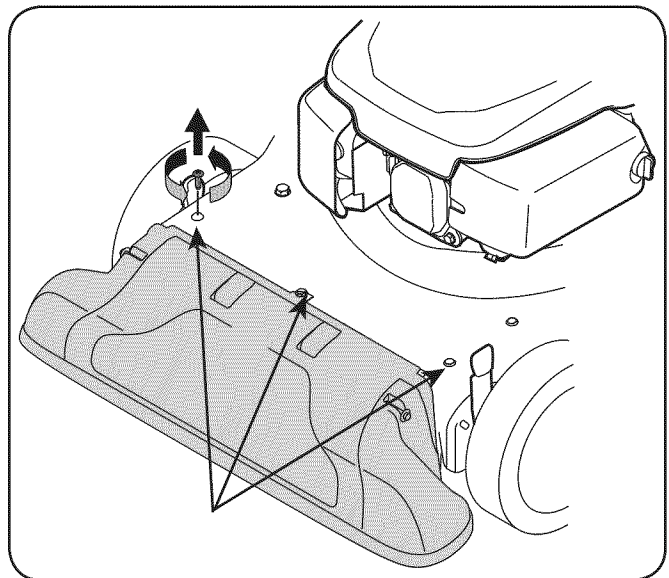

Figure 7-3
6. Remove the three screws on the upper housing that secure the nozzle cover. See Fig. 7-3.